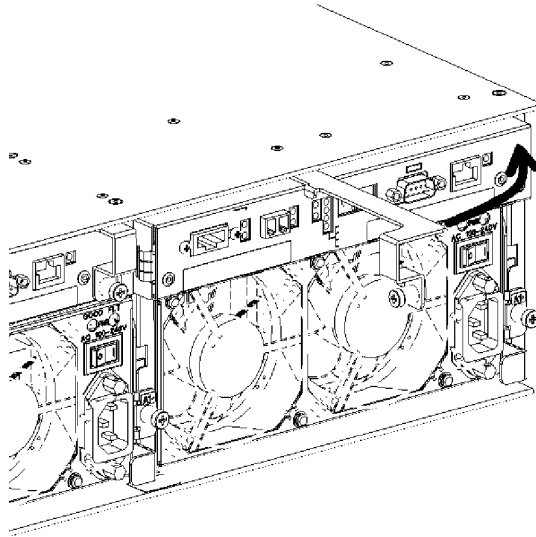

Figure 3-9. Closing the Ejector.
11. Insert the controller as far as it will go into the chassis, and close the ejector. See Figure 3-9.